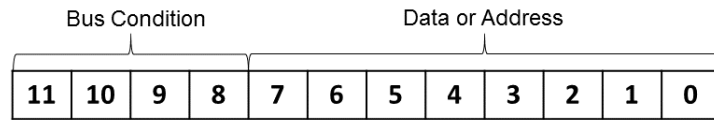

Figure 2-14 Slave RX Data Format
2.5.3.2 Slave Receiver Upon receiving a READ command, the slave receiver stores incoming data in a 512 x 12-bit word RX FIFO. By default, each 12-bit word includes the bus condition in the upper 4-bits, as shown in **Figure 2-14**. The bus condition, as listed in **Table 2-2**, includes the master command and whether the data or address was acknowledged.